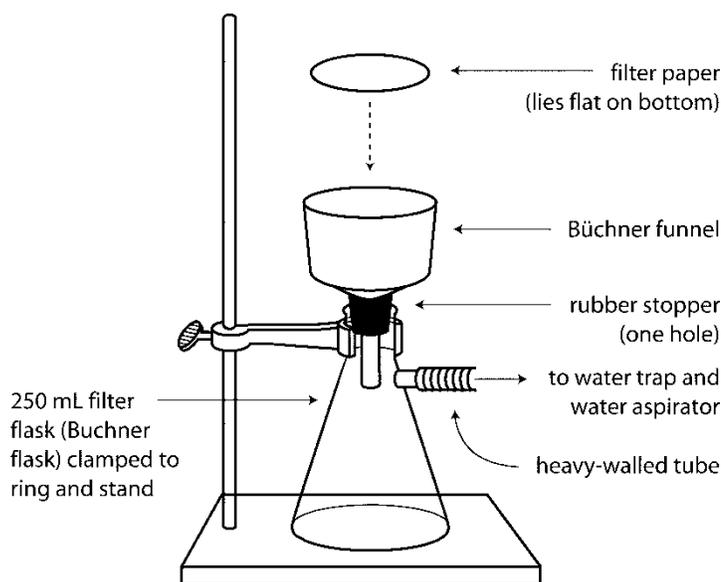

Figure F1.1:
1. Set up the apparatus for suction filtration (see Figure F1.1) and filter off the crude aspirin. Use small portions of **ice-cold** distilled water to rinse the flask and wash the crystals.
- After the flask has air cooled for about 30 minutes it should be chilled thoroughly in an ice bath for a further 15–20 minutes. The crystals should then be separated from the mother liquor by suction filtration (see Figure F1.1). Use small portions (2×10 mL) of ice-cold distilled water to rinse/wash your crystals in the Büchner funnel. Allow the crystals to dry partially by leaving them in the Büchner funnel for at least 30 minutes, then remove the crystals and filter paper from the funnel, and gently scrape the crystals onto a large, pre-weighed watch-glass. Allow the crystals to air dry for the rest of the day, and just before you leave, determine the mass of recrystallized ASA obtained by weighing the watch-glass and the recrystallized ASA.